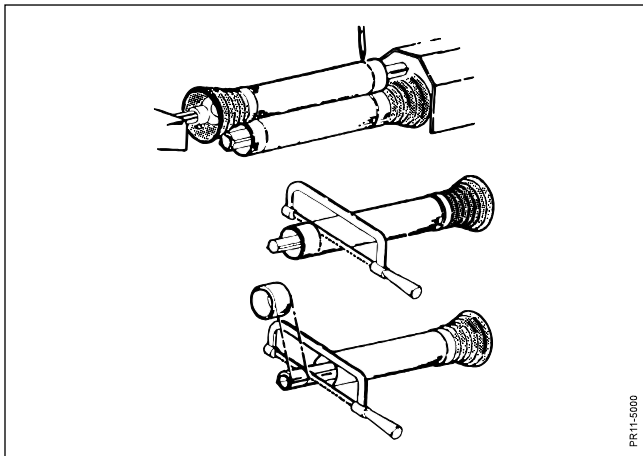

Fig. 2-3
**Fig. 2-3** Fasten the PTO drive shaft half parts to PTO and PIC, respectively, when these are at the same horizontal level and opposite each other. (The shortest distance from the machine).